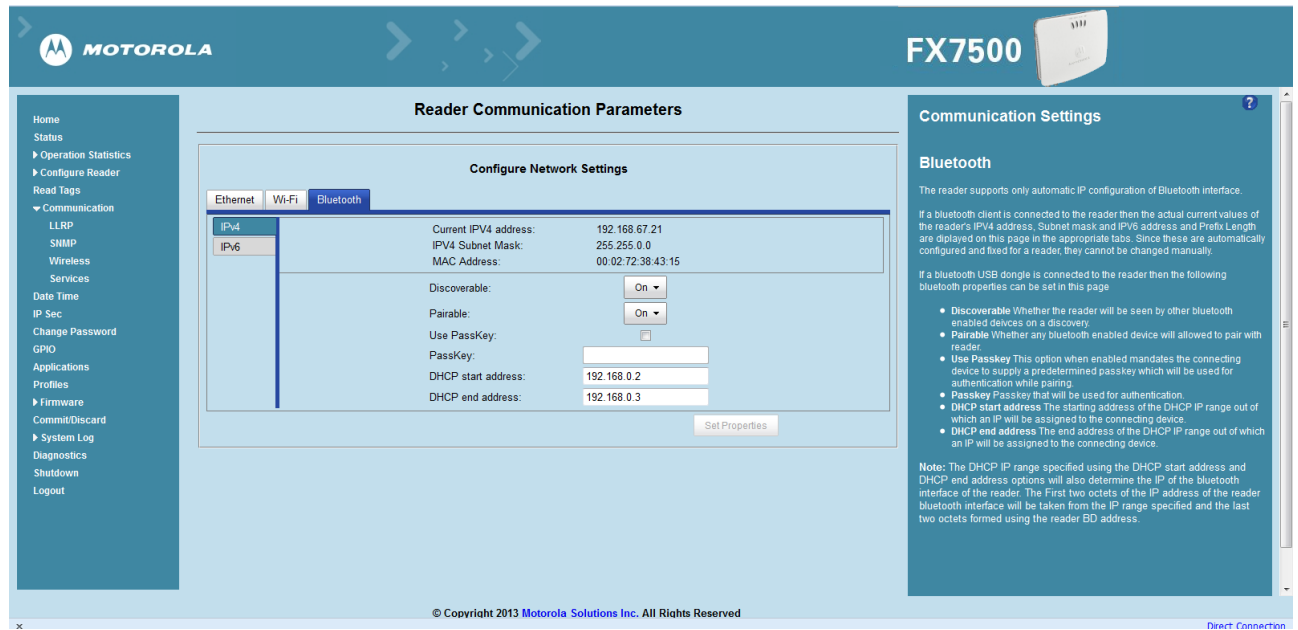

Figure D-12 Communication Bluetooth Tab
9. Open the web page or sample application to connect to the Bluetooth IP (192.168.67.21 in Figure D-12) and read tags.